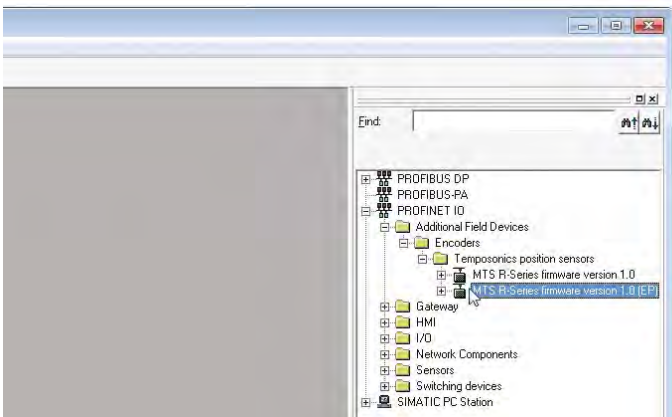

Fig. 72: Select Encoder profile 4.1 (source: Siemens)
1. Select the encoder profile 4.1 from the directory displayed on the right (Fig. 72).